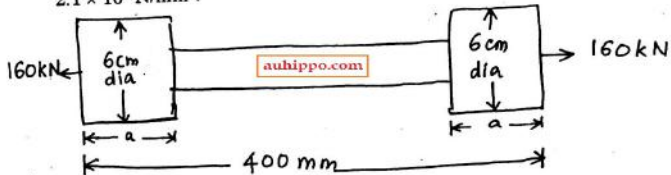

fig.Q.11(a)
11. (a) The bar shown in fig.Q.11(a) is subjected to a tensile load of 160 kN. If the stress in middle portion is limited to 150 N/mm², determine the diameter of the middle portion. Find also the length of the middle portion if the total elongation of the bar is to be 0.2 mm. Young's modulus is 2.1×10^5 N/mm².